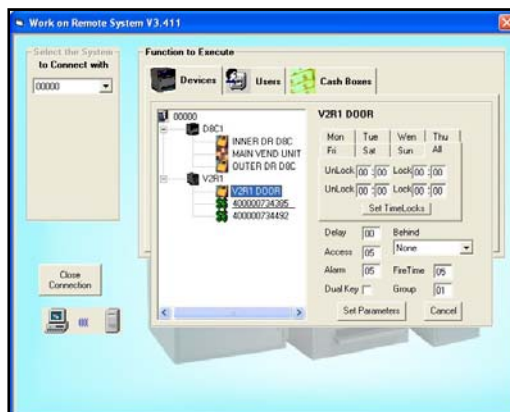

Fig. 8.13
- 3) Once you are successfully connected to the system, the following screen will be displayed (Fig. 8.13). There are 3 tabs to select from the Work Online screen: Devices, Users, and Cash Boxes.